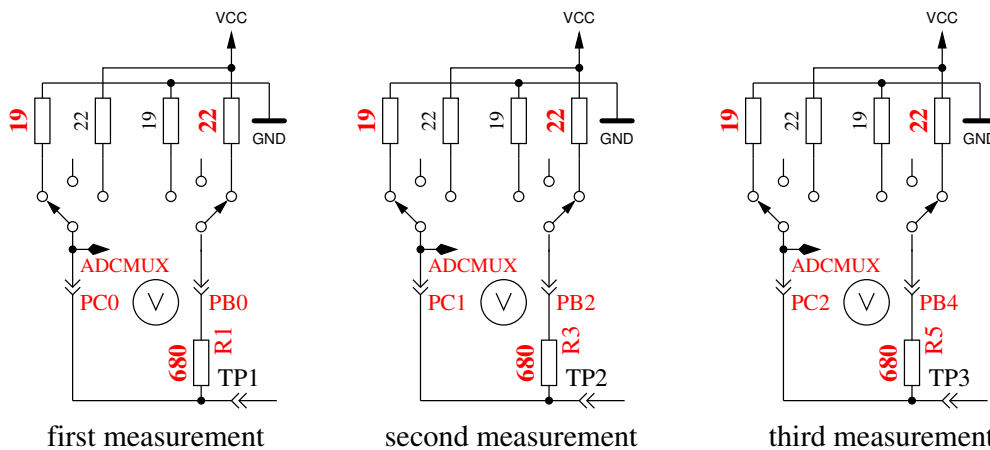

Figure 4.24: Measurement of internal resistance of Port C switched to GND
5. This step tests the capability of GND (-) connected $470k\Omega$ resistors (H) to pull the test pins to GND. Row 1 shows the text RH-. Row 2 should display zero for all three pins.
6. This step tests the capability of VCC (+) connected $470k\Omega$ resistors (H) to pull the test pins to VCC (+). Row 1 shows the text RH+. The best value for this three measurements is 5001. Great differences from the best value for test 5 and 6 are errors such as isolation problem, flux material or damaged port.
7. Measuring of internal resistance of pin output switched to the GND signal. The text in the 1st LCD row is Ri.Lo = (mV). In the second row of the LCD three voltages were displayed. The internal resistance of the port C outputs switched to GND (-) are measured with the current of to VCC (+) switched 680Ω resistors, see Figure 4.24. Only the three pins of the ADC port are measured, the resistor port B (PB0, PB2 and PB4) can not be measured without hardware modification. Is is assumed that the port resistance of the different ports are nearly identical. To get the resistor values, you must divide the displayed mV values by about 7 (see test 8).